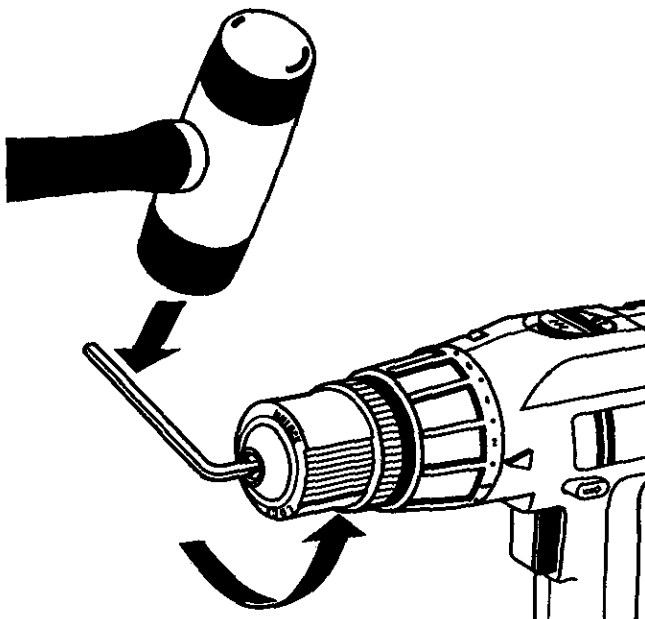

Fig. 16
- Insert allen wrench in chuck and tighten chuck jaws securely. Tap sharply with a mallet in a counterclockwise direction. This will loosen chuck on the spindle. It can now be unscrewed by hand. See Figure 16.